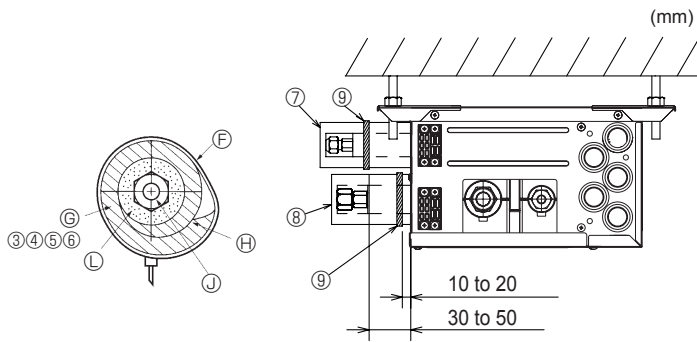
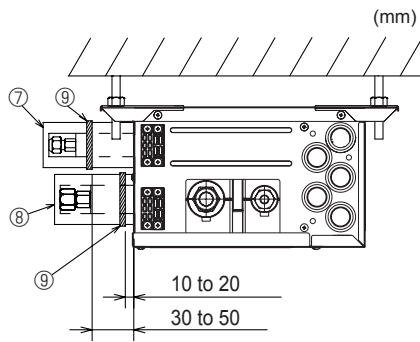

Fig. 7-3
Fig. 7-4
- (1) Remove the flared nuts and caps from the branch box.
- (2) Flare the ends of the liquid and gas piping, and apply refrigeration oil (procure locally) to the flared seat. Do not apply oil to the threaded portion.
- (3) Connect the refrigerant piping immediately. Always tighten the flared nuts to the torque specified in the table 2 using a torque wrench and double spanner.
- (4) Press the pipe covers ③ and ⑤ on the liquid piping against the unit and wrap to hold in place. (Fig. 7-3)
- (5) Press the pipe covers ④ and ⑥ on the gas piping against the unit and wrap to hold in place. (Fig. 7-3)
- (6) Apply the supplied bands ⑨ at a position 10 - 20 mm from each end of the pipe covers (③④⑤⑥).
- (7) If the indoor unit is not connected, fit the supplied pipe covers (with caps, ⑦ and ⑧) to the branch box refrigerant piping connections against the unit to prevent condensation dripping from the pipes. (Fig. 7-4)
- (8) Clamp the pipe covers (⑦⑧) in place with the supplied bands ⑨.
- ⓕ Band ⑨
- ⓖ Pipe covers ③④⑤⑥
► Use the following procedures for indoor connection part which indoor unit is not connected. (Fig. 7-4)
- (1) In order to prevent refrigerant leaks, make sure that the flare nuts are tightened according to the specified torques* in Table 3.
- (2) In order to prevent condensation, install the pipe covers ⑦ ⑧ against the unit and fasten them with the supplied bands ⑨.